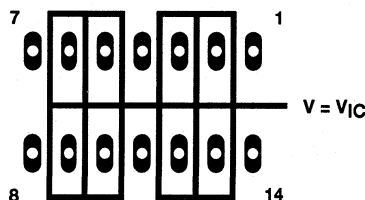
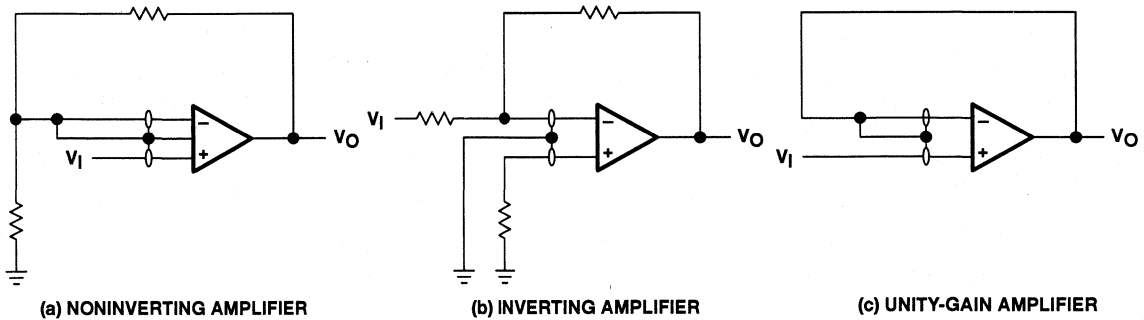

Figure 33. Isolation Metal Around Device Inputs
Figure 37. Guard-Ring Schemes
- Isolate the device from other potential leakage sources. Use a grounded shield around and between the device inputs (see Figure 33). Leakages that would otherwise flow to the inputs are shunted away.
Because of the extremely high input impedance and resulting low bias-current requirements, the TLV2334 is well suited for low-level signal processing; however, leakage currents on printed-circuit boards and sockets can easily exceed bias-current requirements and cause a degradation in device performance. It is good practice to include guard rings around inputs (similar to those of Figure 33 in the Parameter Measurement Information section). These guards should be driven from a low-impedance source at the same voltage level at the common-mode input (see Figure 37).